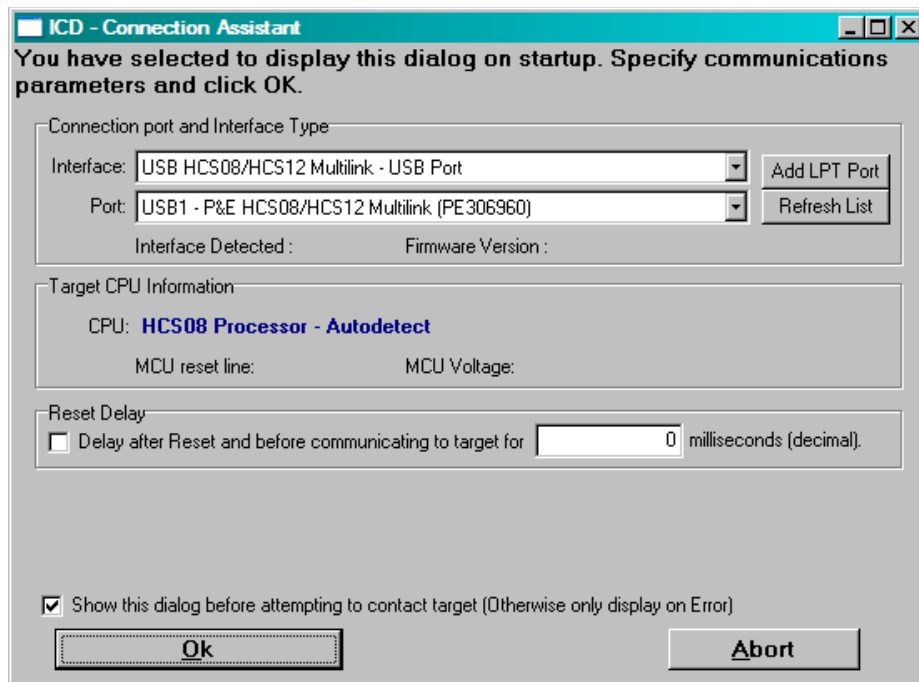

Figure 3-7. Connection Wizard Window
- From the main window, setup the target by selecting the Component menu, then click on Set Target. The Set Target window appears as shown in Figure 3-7. In the Processor drop down menu, select HCS08. From the Target Interface drop down menu, select P&E Target Interface, then click the OK button.
- When connecting for the first time, the Connection Assistant window appears prompting to select the debugger interface connection. As shown in Figure 3-7, a USB connection was chosen and the HCS08 was selected as the CPU type. Click the OK button.